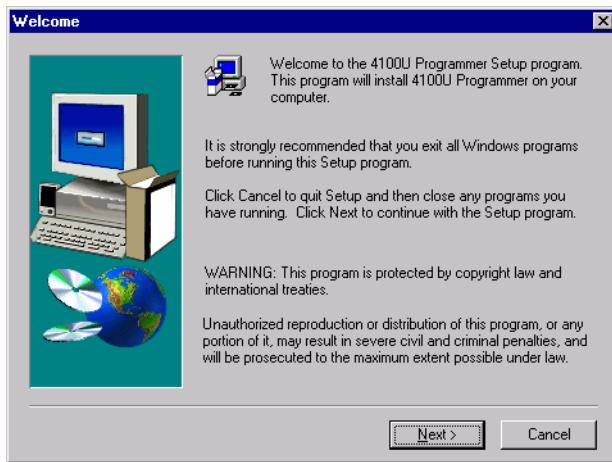

Figure 2-2. Initial Installation Screen
1. Double click on the **4100 Programmer** icon to launch the PC Programmer's installation script. The screen shown in Figure 2-2 appears.